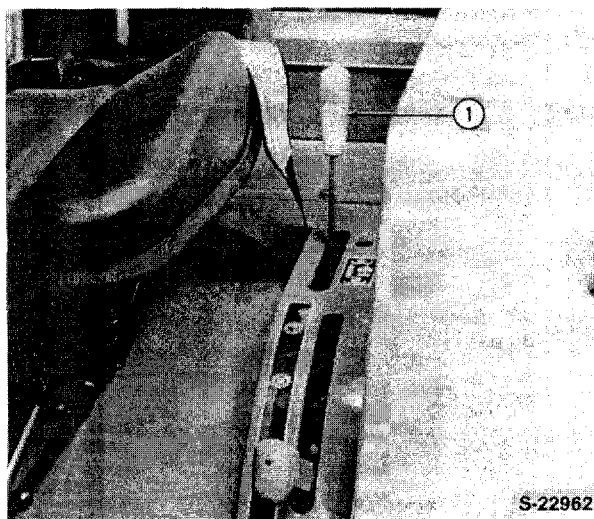

Figure 19
The power take-off control lever (1), Figure 19, is located on the left hand side of the rear axle center housing.